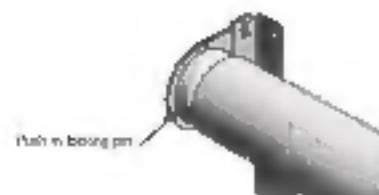

Fig. 4
2. Ensure the locking pin is IN. (Fig. 4).